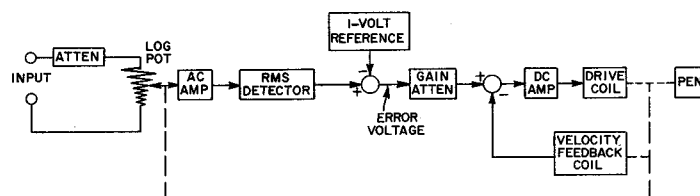

Figure 1.2. Block diagram of recorder.
1.2 GENERAL DESCRIPTION. (See Figure 1.2.) The Type 1521-B is a servo-type recorder. The input signal is fed through an input step attenuator to a potentiometer which is automatically positioned to maintain a constant 1-mv ac signal at the wiper arm output. This output voltage is amplified and then rectified by a quasi-rms detector (refer to paragraph 4.3). The detector's dc output voltage is compared with a 1-volt reference, and the difference (error) voltage is amplified by a dc amplifier. The push-pull output current from the dc am-